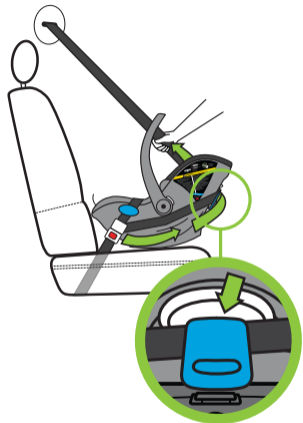

Figure 69
- With one hand firmly holding the shoulder belt so it doesn't retract, wrap the shoulder belt around the back of the Carrier with the other hand, and tuck the shoulder belt into the blue Shoulder Belt Guide, as shown in **Figure 69**.